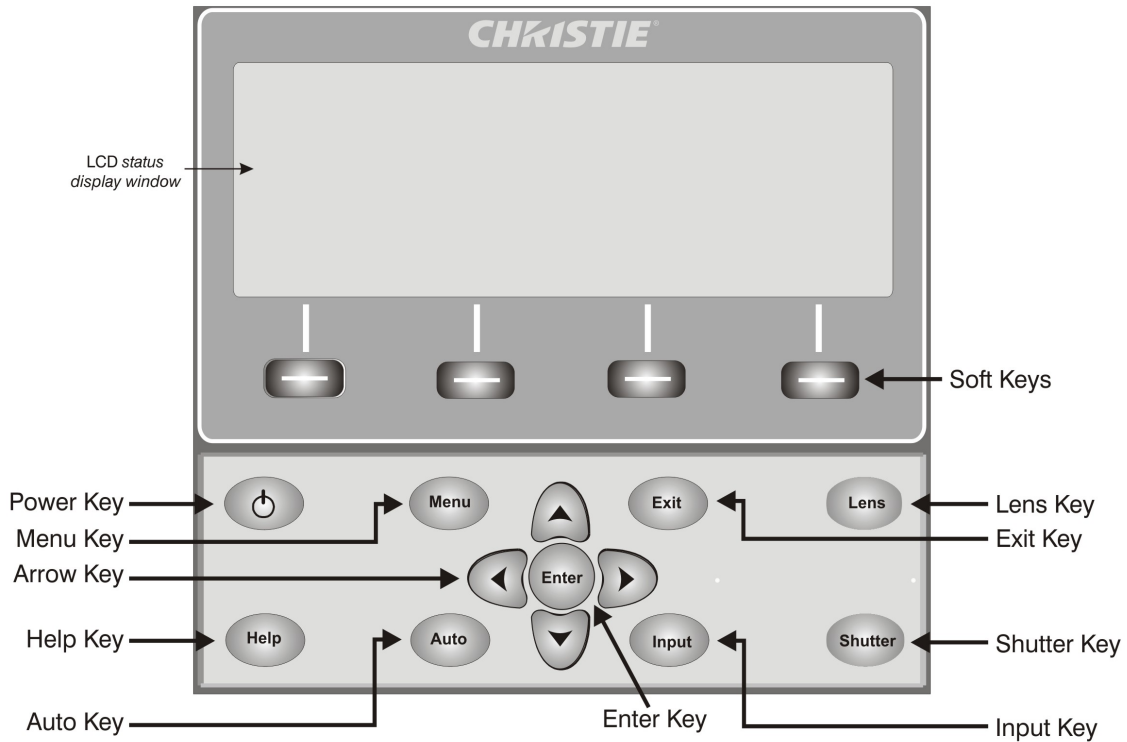

FIGURE 3-2 BUILT-IN KEYPAD
- **Built-in Keypad** located at the side of the projector, see *Figure 3-2 Built-In Keypad*.